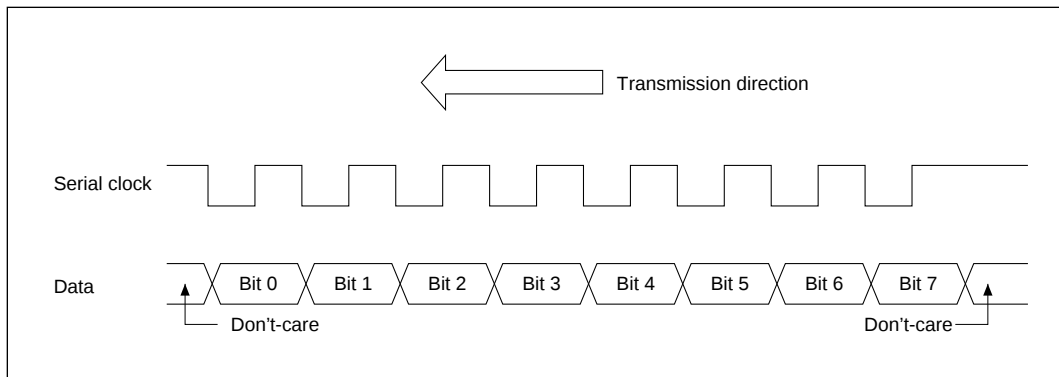

Figure 14-4 Data Format in Synchronous Mode
1. Data Format: Figure 14-4 shows the communication format used in the synchronous mode. The data length is 8 bits for both the transmit and receive directions. The least significant bit (LSB) is sent and received first. Each bit of transmit data is output from the falling edge of the serial clock pulse to the next falling edge. Received bits are latched on the rising edge of the serial clock pulse.